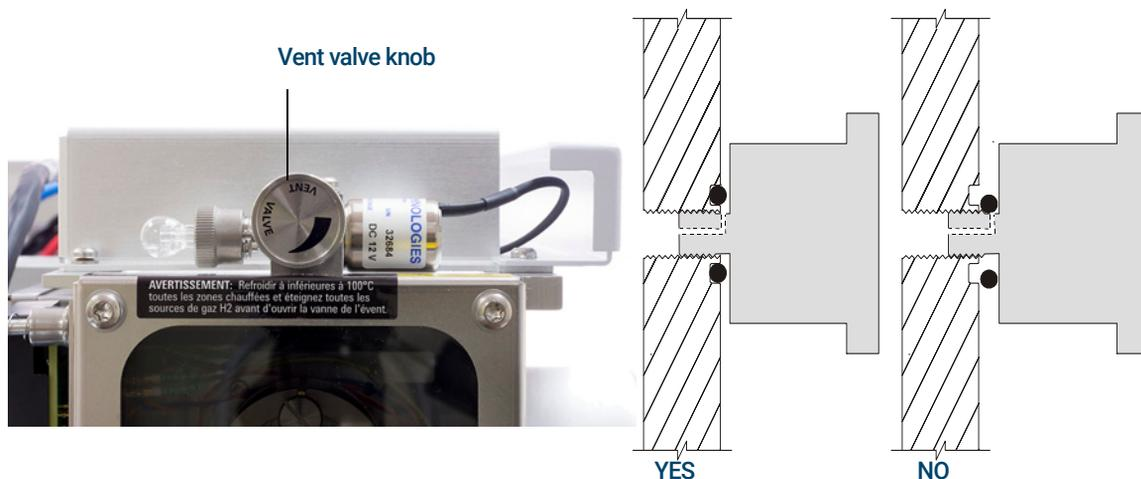

Figure 38. The MS vent valve knob
- 7 Turn the vent valve knob counterclockwise **only** 3/4 turn or until you hear the hissing sound of air flowing into the analyzer chamber. (See Figure 38.)